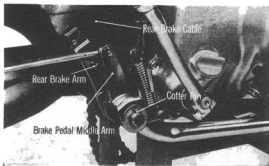

Fig. 92
- (5) Pull out the cotter pin.
- (6) Extract the brake pedal middle arm brake pedal and rear brake arm with a washer from the brake pivot pipe. (Fig. 92).